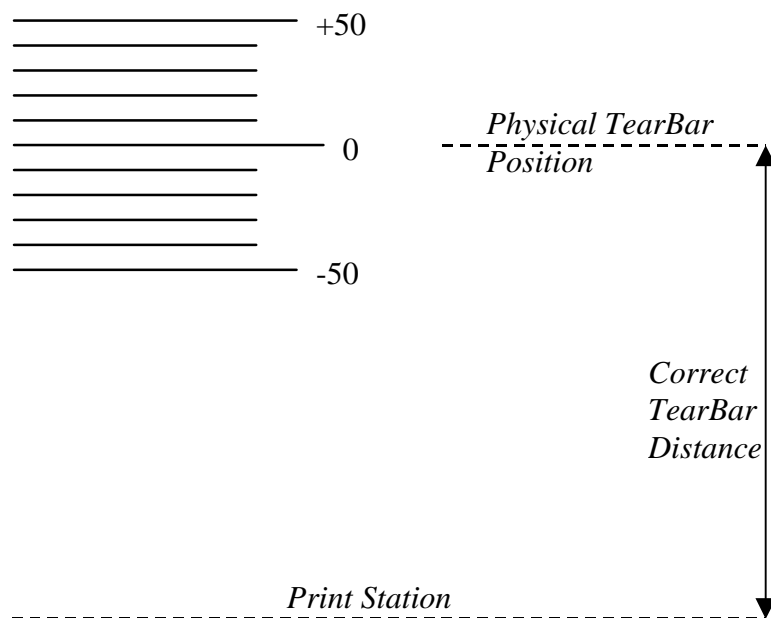

Figure 112. Correct Tear Bar Distance
8. Press **ENTER** to select the desired value. An asterisk appears next the selected value and a scale prints to indicate the tear bar distance in relation to the tear bar. For correct tear bar distance, the zero should align with the tear bar. See Figure 112.